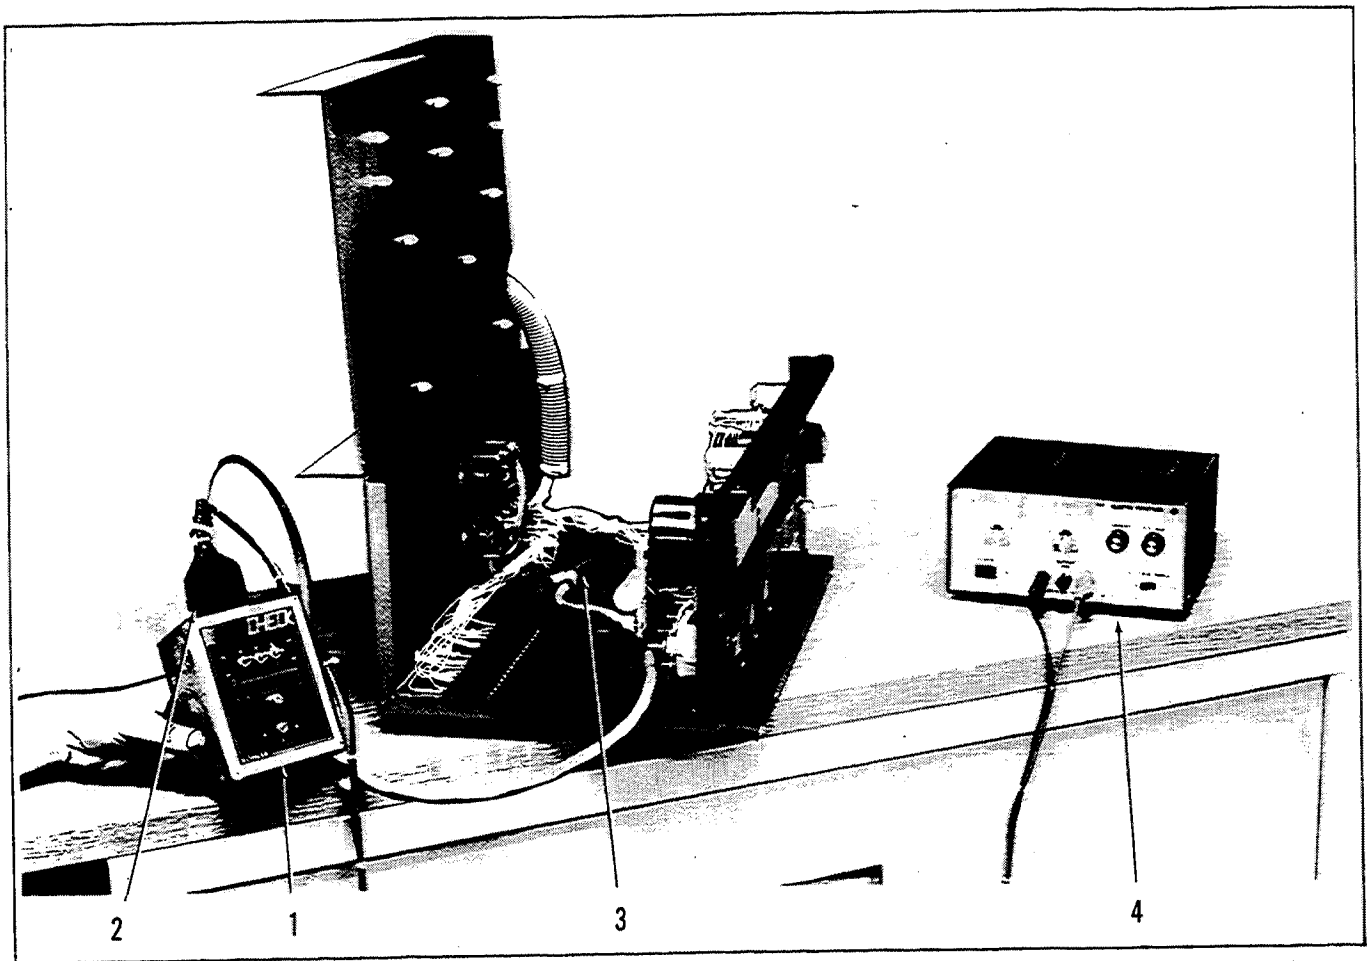

Figure 3-10. Fast Check Connections
1. Unplug DC engine harness from DC harness connector (P1) (Figure 3-10).